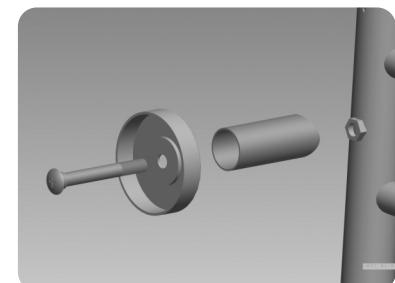

Figure 1
- Place the Towel Rail face down on a flat surface, and loosely assemble each fixing point into the reverse of the towel rail using the spacer bar, fixing cover-cap and bolt, aligning with the hexagonal thread as shown in *Figure 1*.